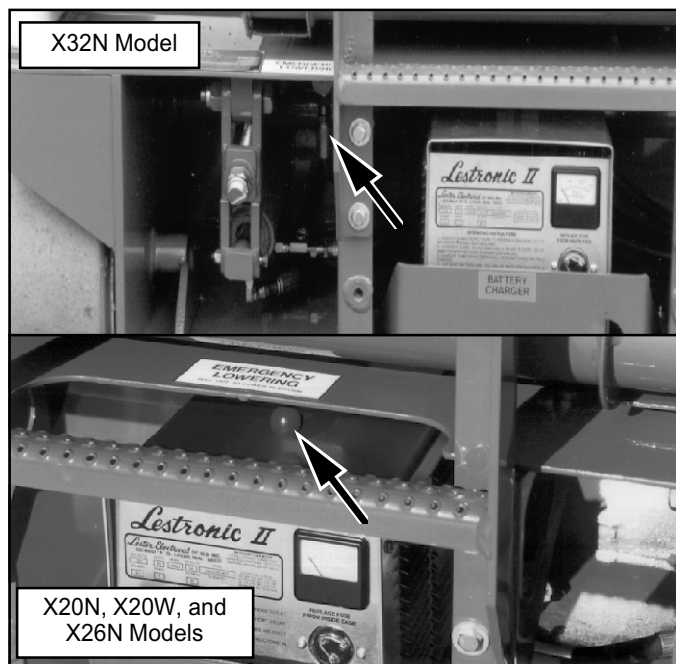

Figure 3: Emergency Lowering Valve Handle
15. Open the Chassis Emergency Lowering Valve (Figure 3) to check for proper operation by pulling and holding the knob out. Once the platform is fully lowered, close the valve by releasing the knob.
Ask a person on the ground to open the Emergency Lowering Valve located at the rear of the machine (Figure 3).